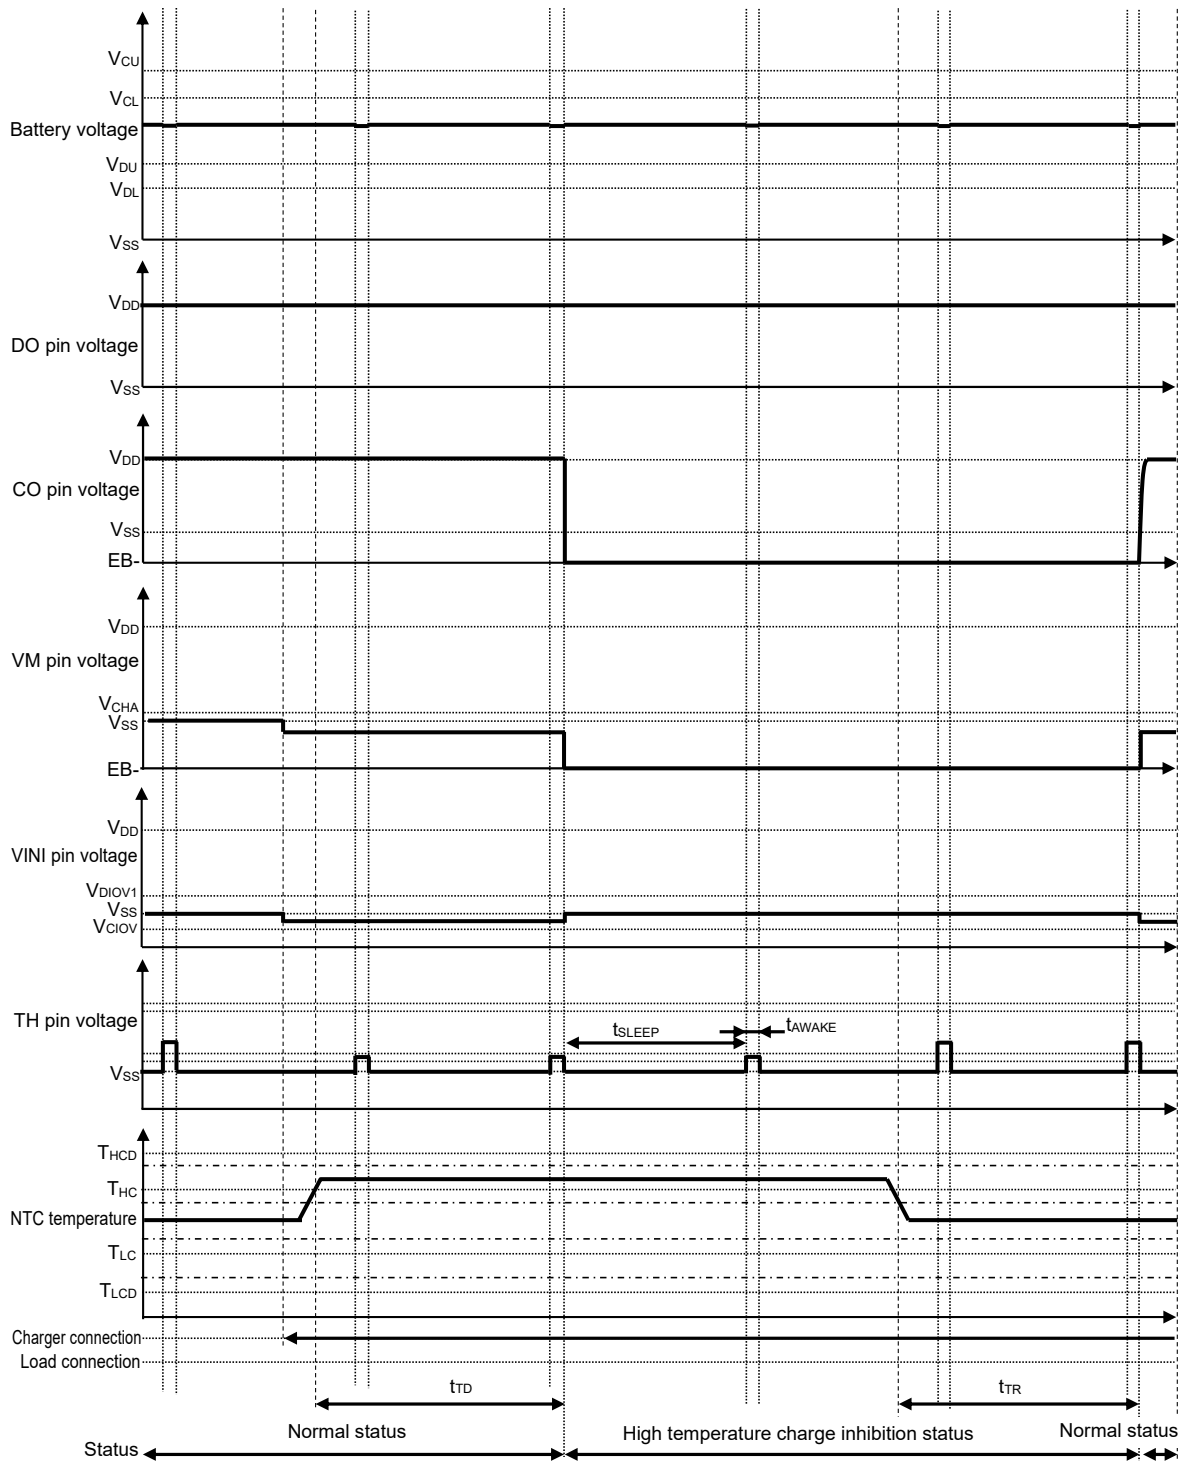

Figure 14
**Remark 1.** Figure 14 shows an example when  $N = 2$ .  $t_D$  and  $t_{TR}$  have the following ranges.